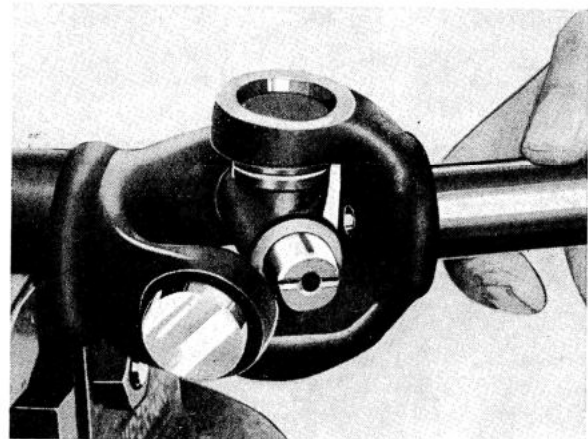

Fig. 4-129. Removing the spider, II
5. Drive out one of the needle bearings with a thin metal punch. Remove the spider, see Fig. 4-129. Drive out the other needle bearing.